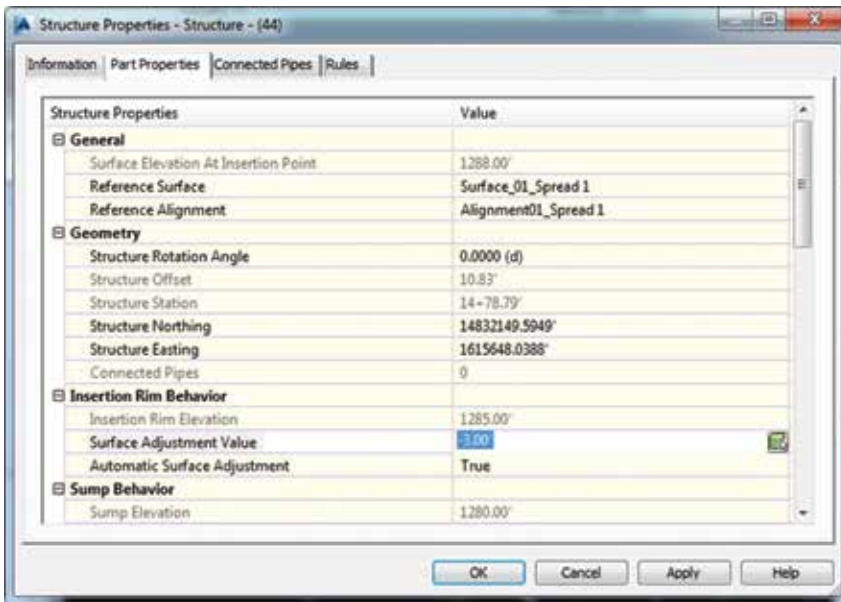

Figure 8: Trench plug surface adjustment available within the Structure Properties dialog box
- To change the elevation assigned to Trench Plug locations, select each structure and modify the “Surface Adjustment Value” field as required (Figure 8).